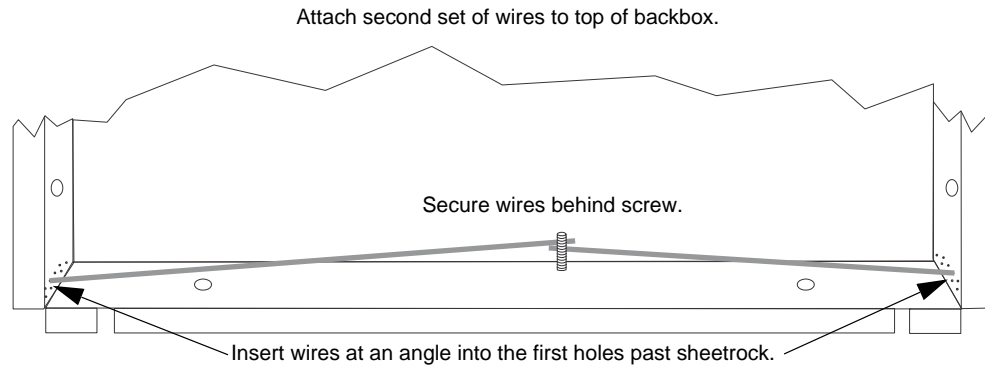

Figure 4.20 Flush Mounting the Backbox
3. Fit the annunciator backbox into the hole and stabilize with mounting wires. Angle the mounting wires into the first hole past the sheet rock. Secure the wires behind the screws as shown in Figure 4.20. When all four wires are in place, the backbox should fit snugly into the hole in the sheetrock.